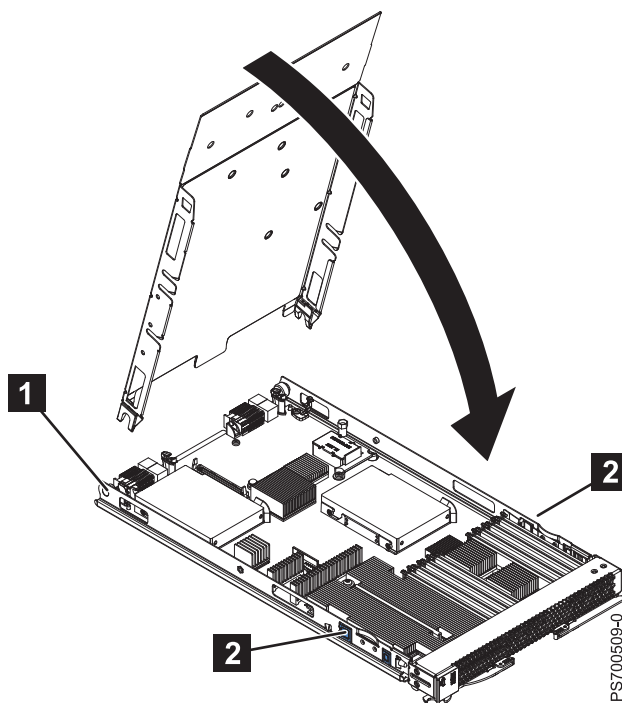

Figure 16. Installing the cover
2. Lower the cover so that the slots at the rear slide down onto the pins ( **1** in Figure 16 on page 33) at the rear of the blade server. Before you close the cover, verify that all components are installed and seated correctly and that you have not left loose tools or parts inside the blade server.